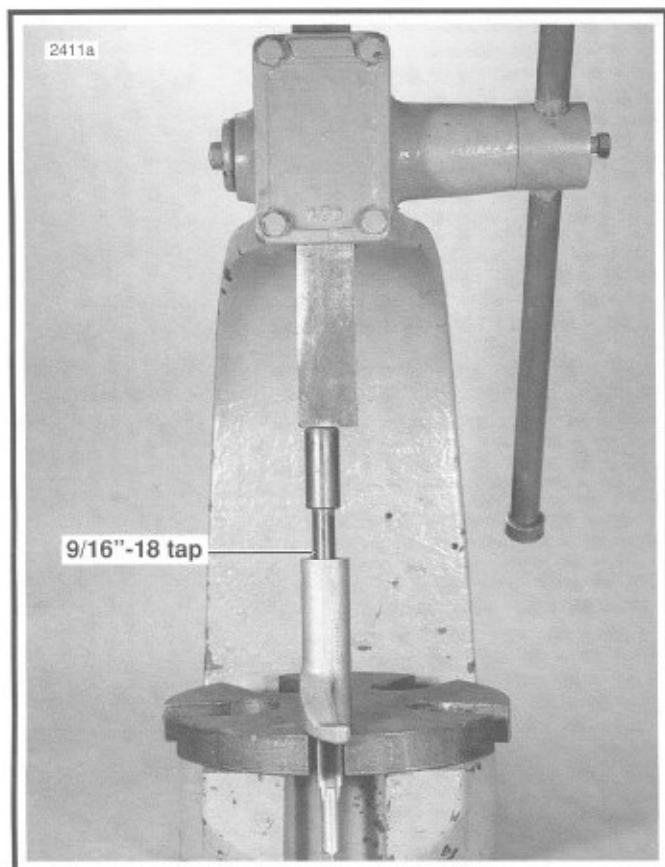

Figure 3-17. Removing Rocker Arm Bushing
1. See Figure 3-17. To replace worn bushings, press or drive them from the rocker arm. If bushing is difficult to remove, turn a 9/16-18 tap into bushing. From opposite side of rocker arm, press out bushing and tap.